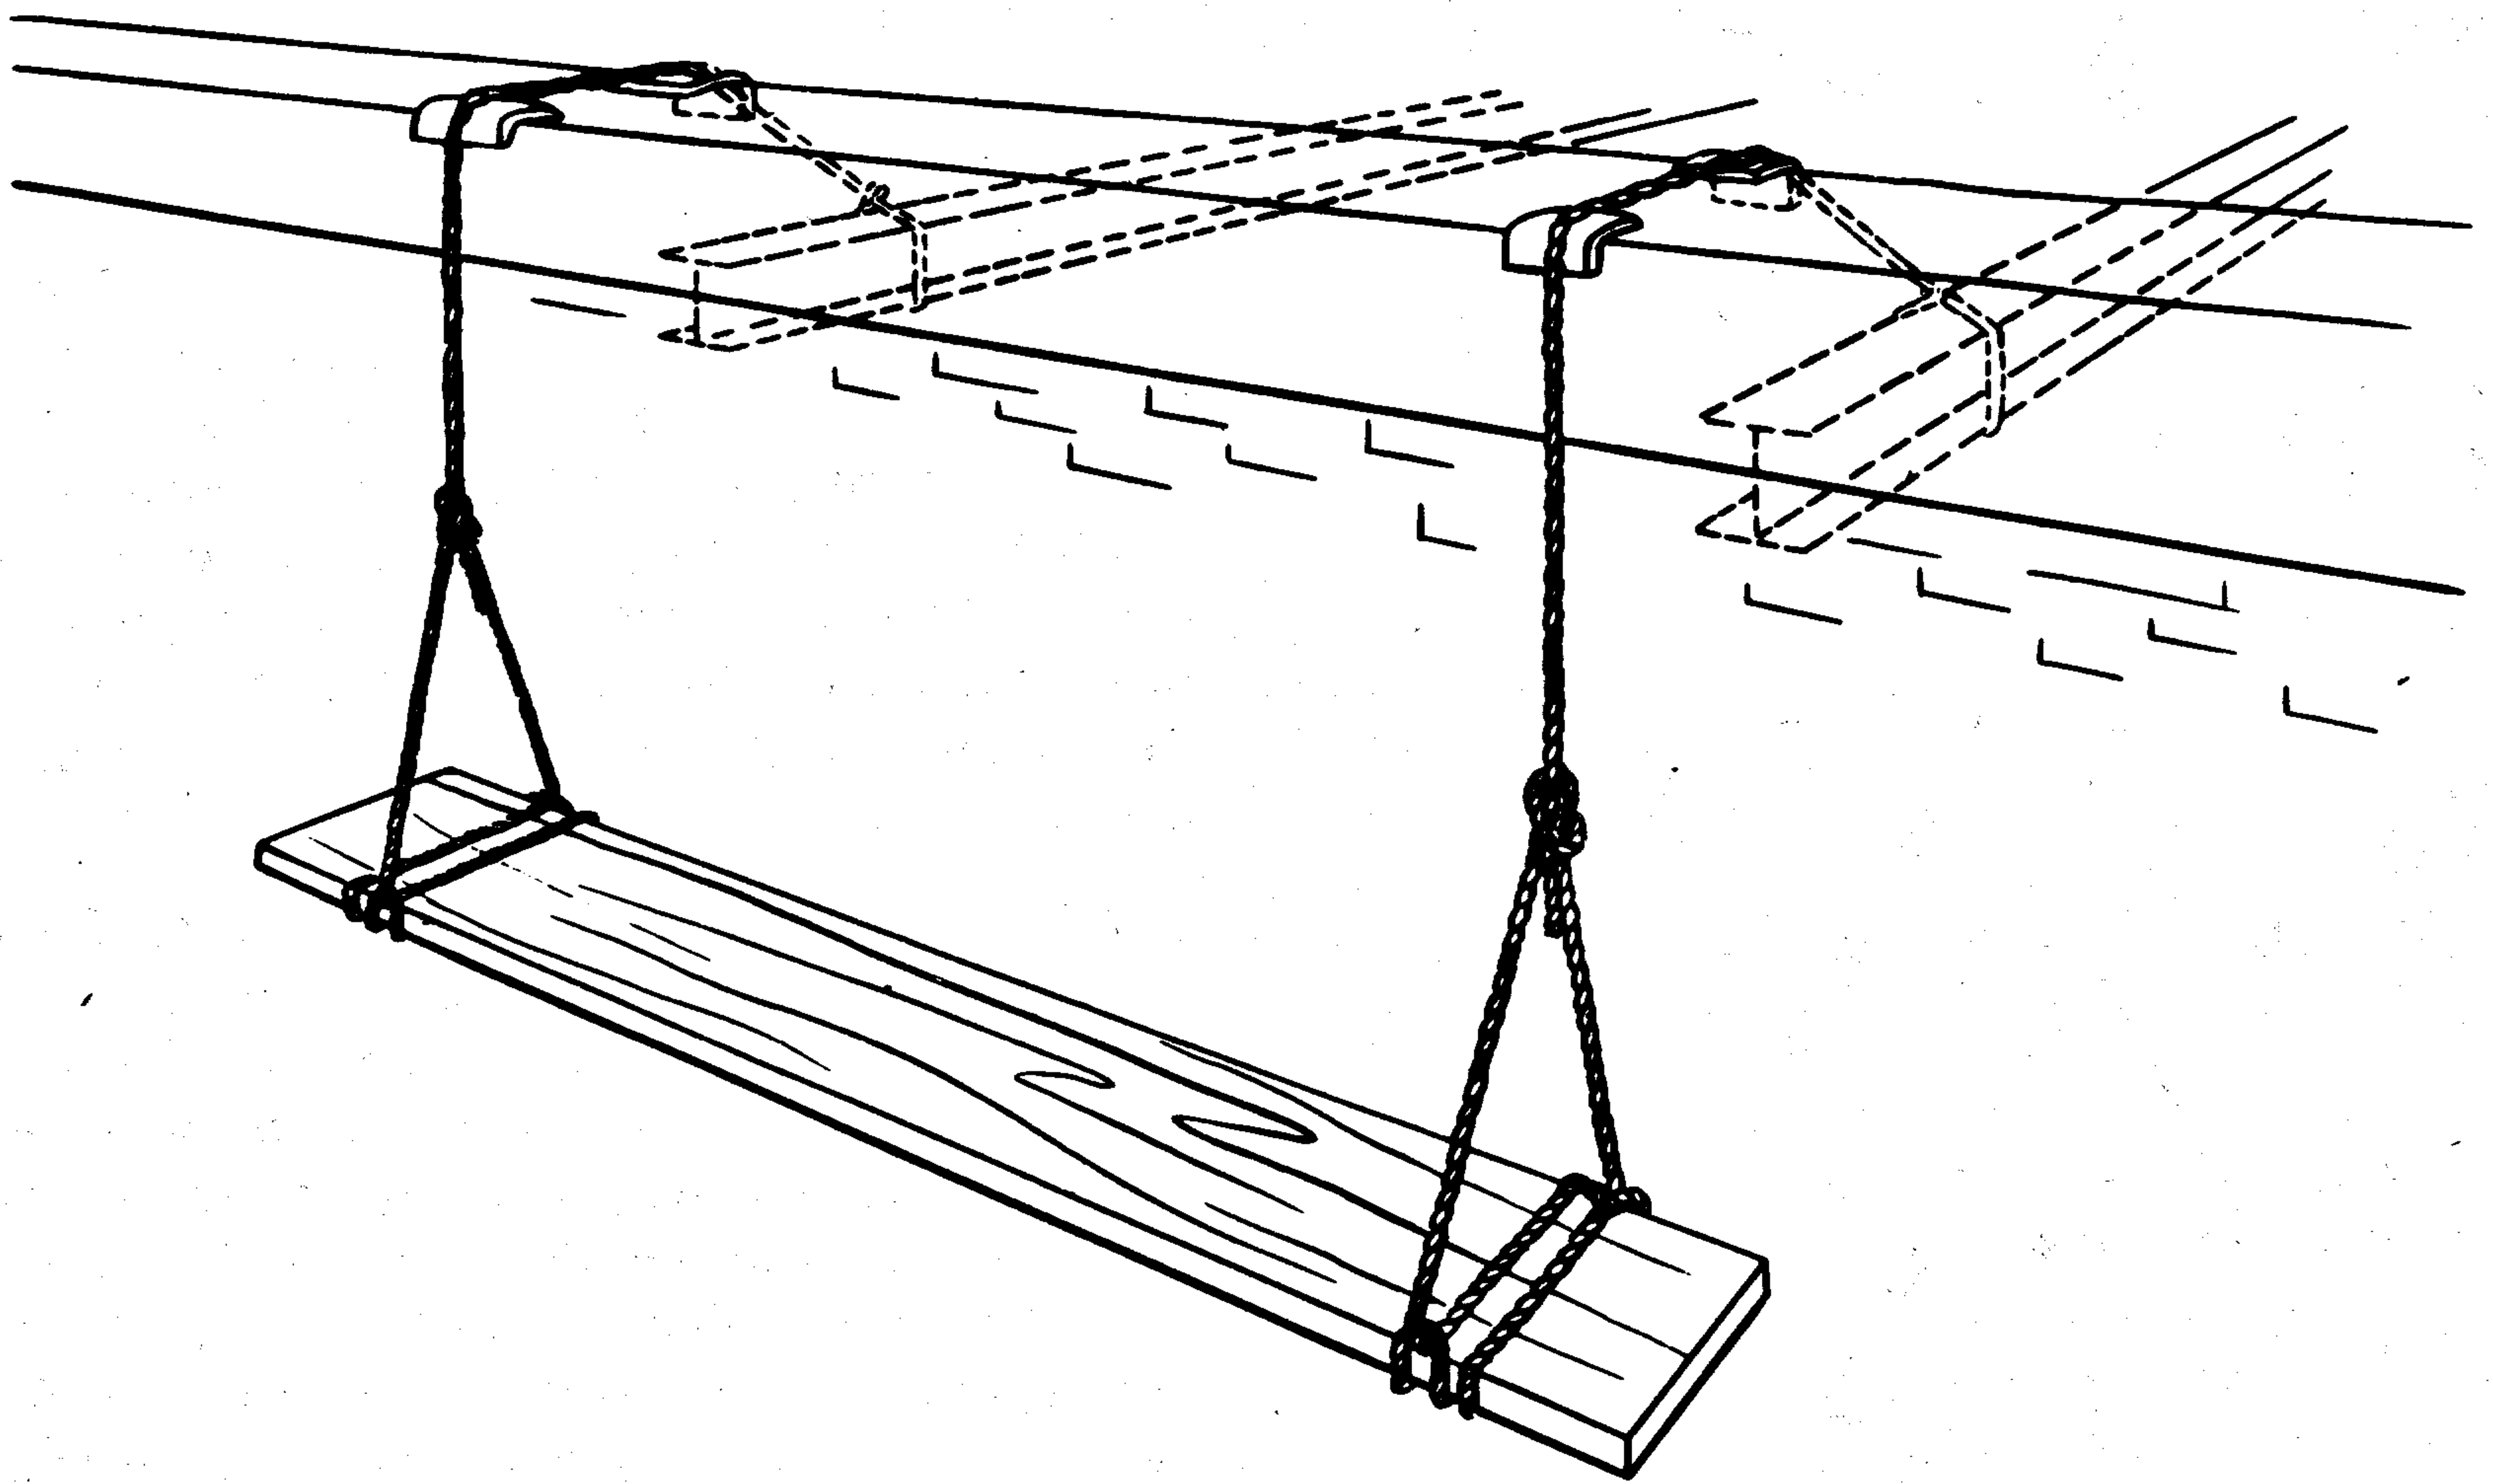

Figure 6-4. Single swinging plank scaffold.
(1) *Single plank scaffold.* A single scaffold plank (fig. 6-4) may be swung over the edge of a building with two ropes by using a scaffold hitch (fig. 2-28) at each end. A tackle may be inserted in place of ropes for lowering and hoisting. This type of swinging scaffold is suitable for one man.